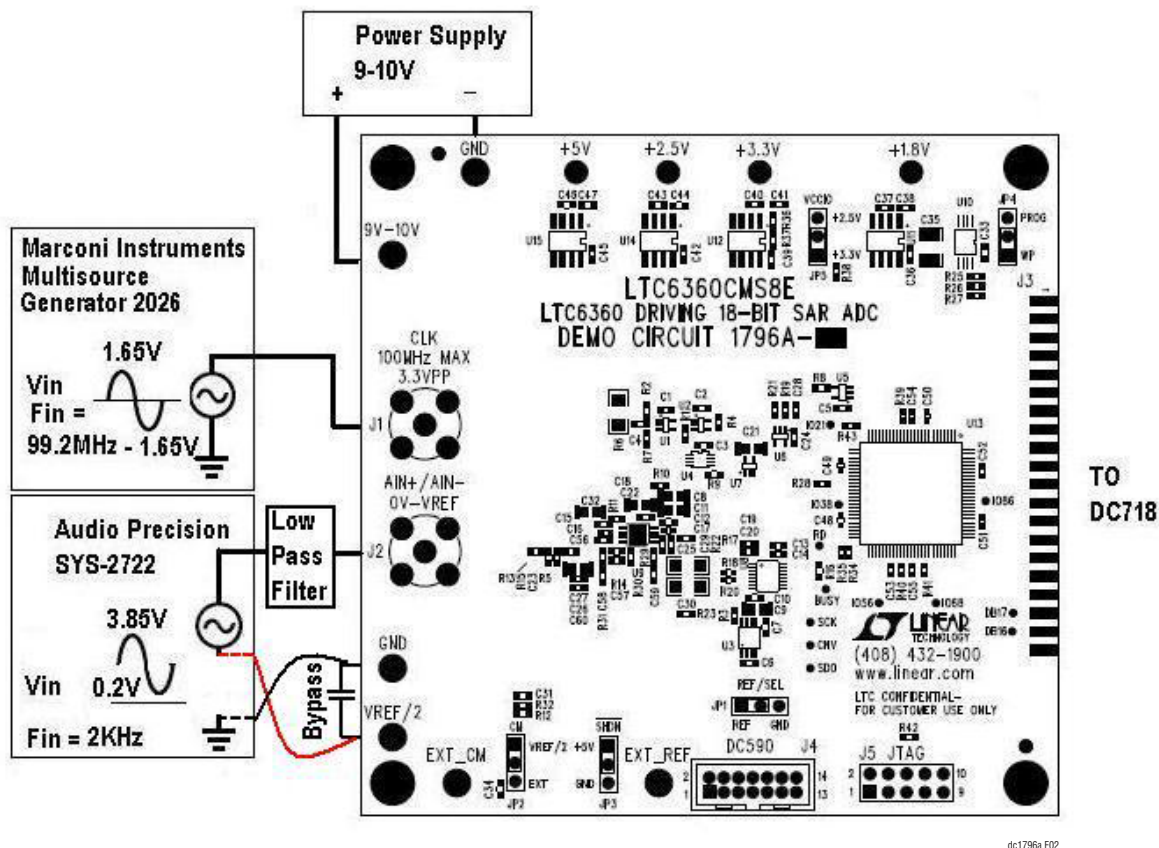

Figure 2. DC1796A Test Diagram
This board is tested by measuring the distortion at -1 dBFS, 2kHz single-ended input, as shown in Figure 2.
1. Make sure that all the jumpers are set as shown in Figure 2 (DC1796A test diagram).